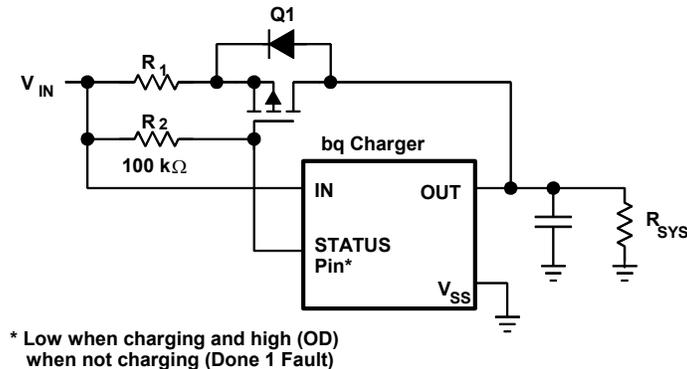

Figure 1. Current Supplement Circuit
- **Supplemental Load Current** - If the system load is constant (DC), it can effectively be subtracted out by supplementing an equivalent current from the input to the battery via a resistor and P-CH FET in series (see Figure 1). The concept is to supply the system load current from the input source during voltage regulation so that only the battery is receiving the charger's current, thus making a proper termination. To calculate R1, use the following equations: